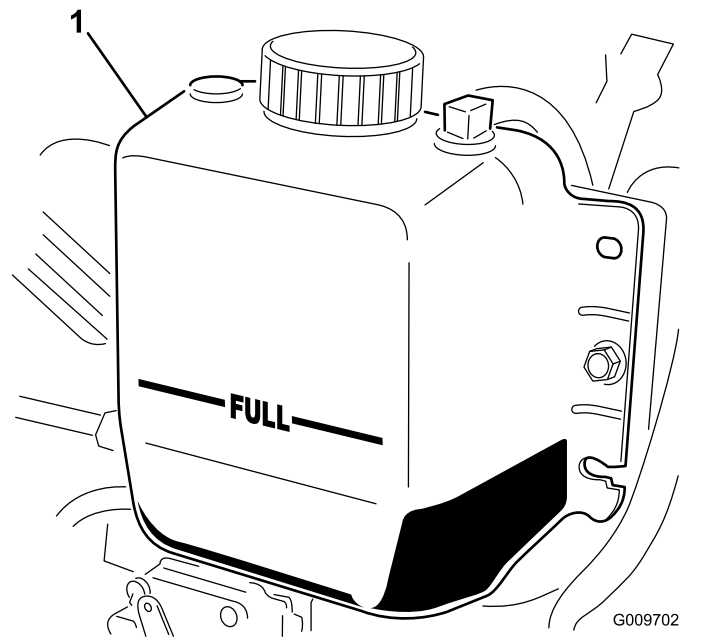

Figure 35
2. Check the coolant level in the radiator. The radiator should be filled to the top of the filler neck and the expansion tank filled to the FULL mark (Figure 35).